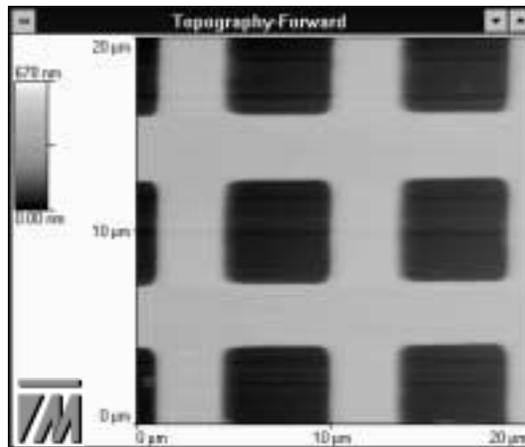

Figure 2-6. New orientation of sample, after applying rotation function.
4. Once the line is placed appropriately, right-click to rotate to the new scan direction and restart the scan. The new orientation is shown in Figure 2-6.